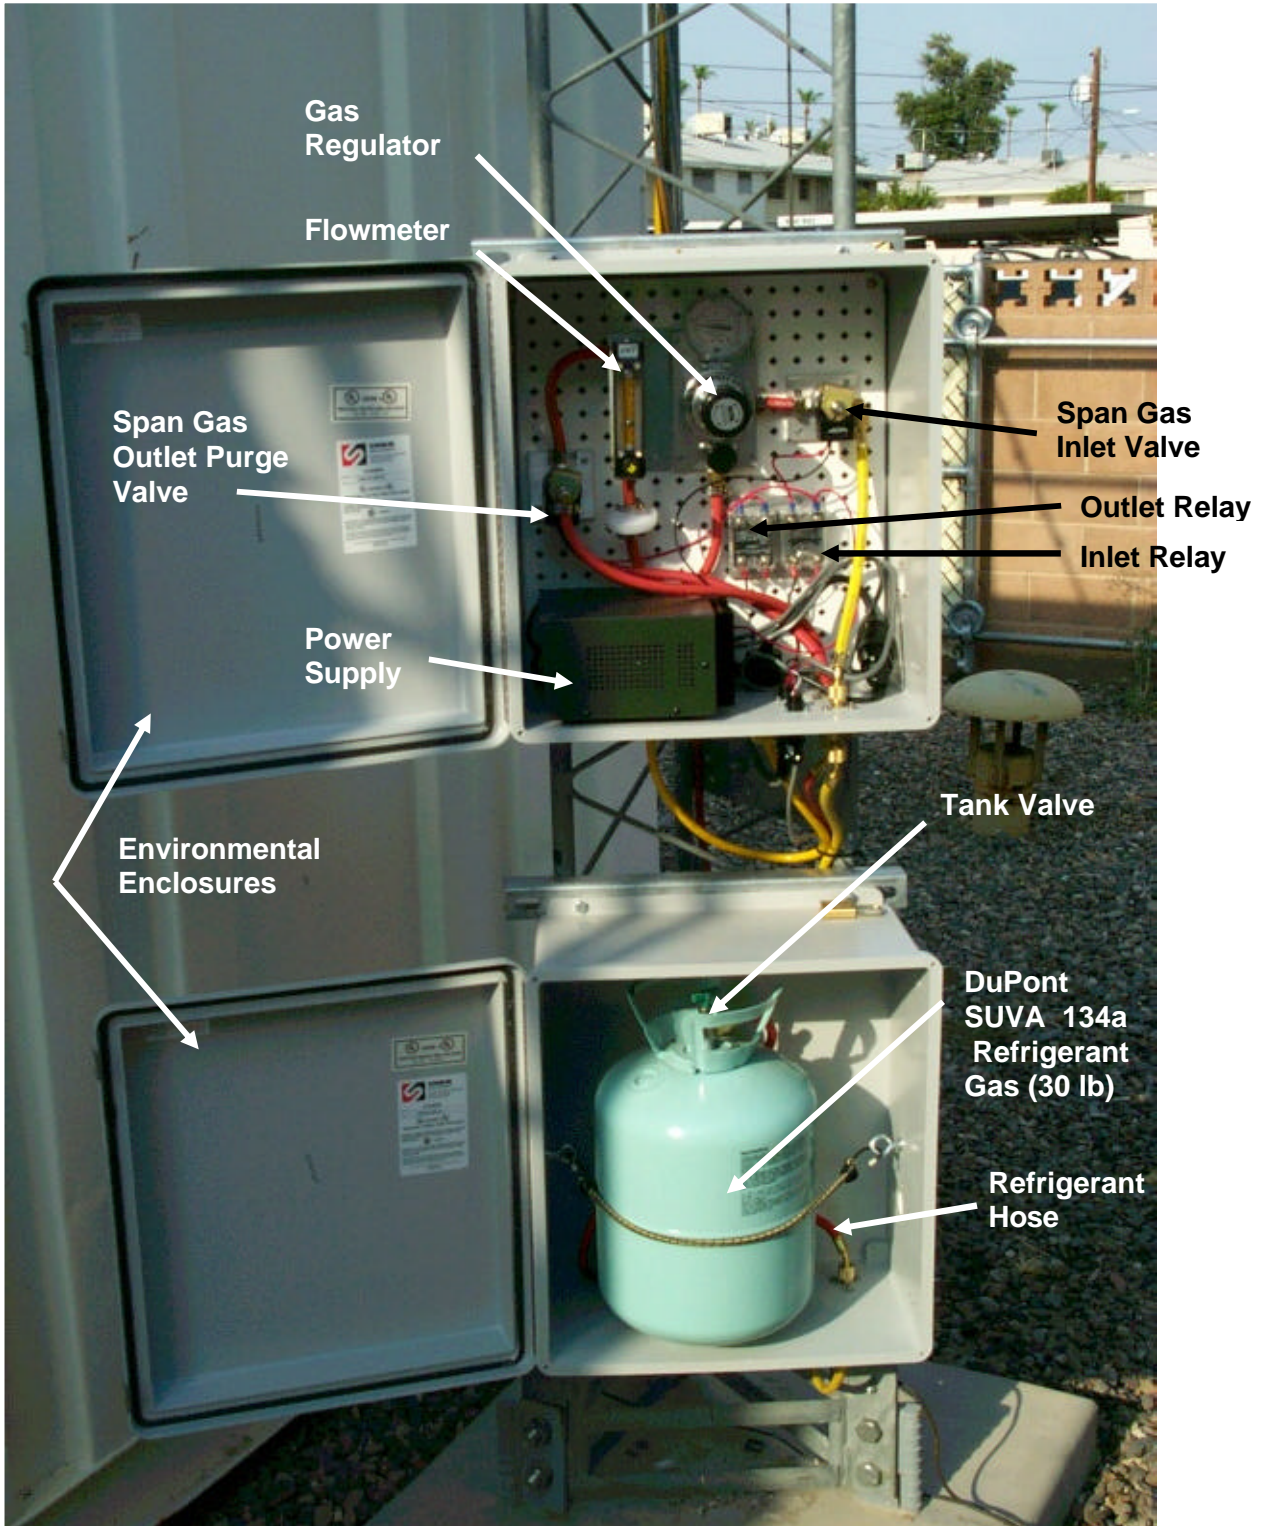

Figure 3-1. Automatic Span Gas Calibration System for the Optec NGN-2 Nephelometer (Type 2).
- Calibration gas hoses and fittings to connect the tank, regulator, flowmeter, and nephelometer (refer to Figure 3-1). The hoses must be compatible with SUVA-134a.